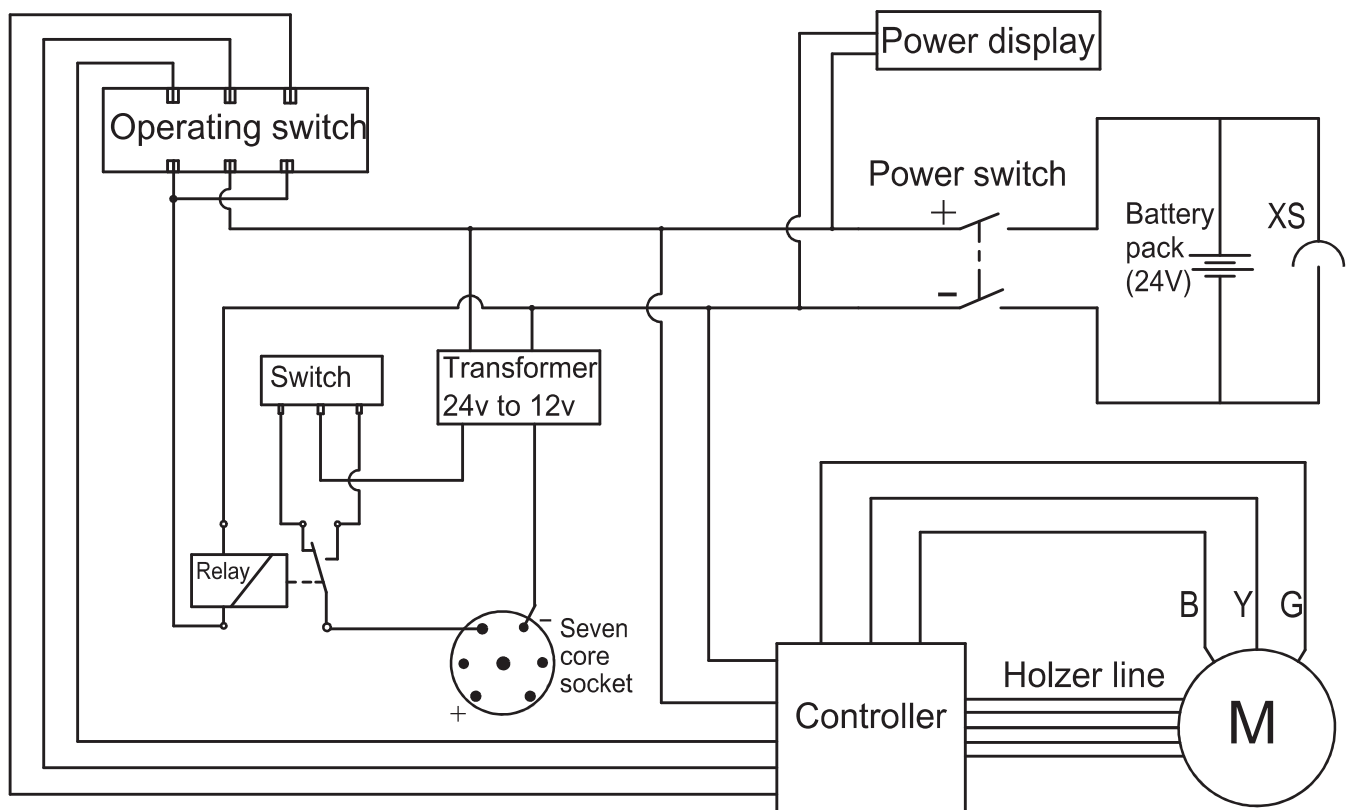

Fig.07
5. Battery cable connection (See Fig.07)